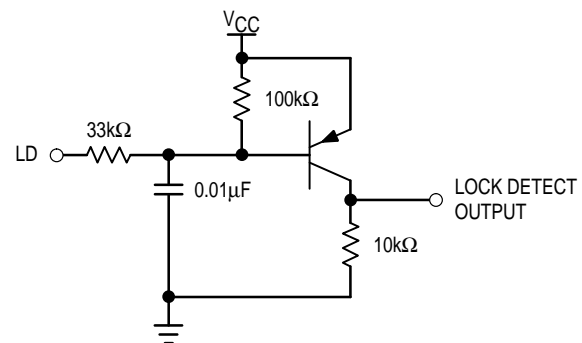

Figure 9. Typical Lock Detect Circuit
The Lock Detect (LD) output pin provides a LOW pulse when f_r and f_p are not equal in phase or frequency. The output is normally HIGH. LD is designed to be the logical NORing of the phase frequency detector's outputs UP and DOWN. See Figure 6. In typical applications the output signal drives external circuitry which provides a steady LOW signal when the loop is locked. See Figure 9.